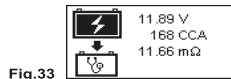
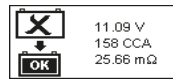

Fig.33
Fig.34
3. Check the battery ratings and enter it as described earlier and the results will show as per examples below: (Fig.33 and Fig.34)
Fig.33- Results shown [Recharge and test again], it indicated that the battery has to be fully charged first before repeating the test. Reason: State of Charge: 11.89V is too low.
Fig.34 - Results shown [To replace], this meant that the battery need to be replaced as its internal plate resistance [Int. R] 25.66 mΩ is higher than 15 mΩ limit.